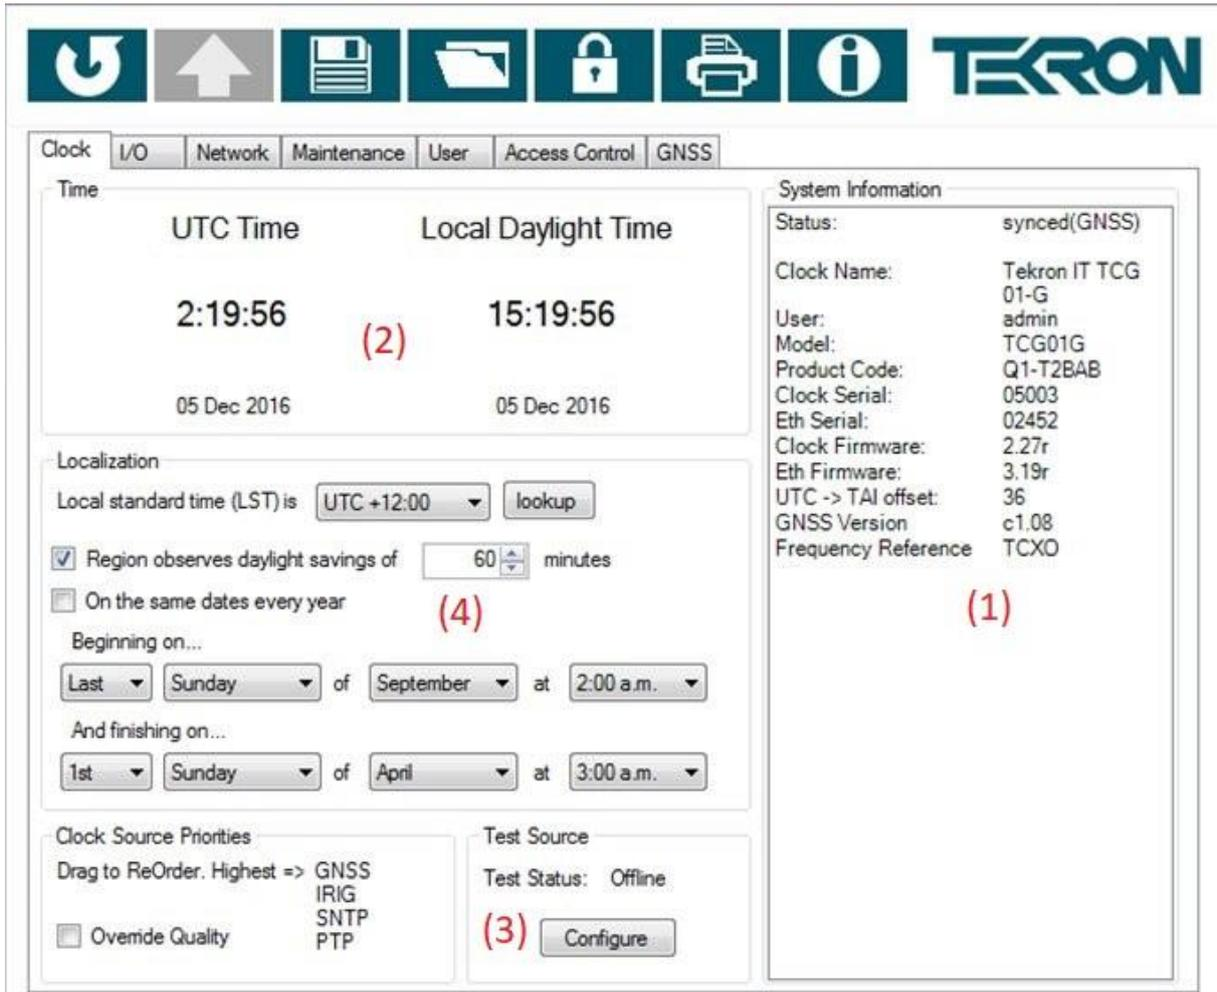

Figure 24 – Configuration tool clock tab
When you first click the “Configure” button on your selected clock, you will be taken to the Clock tab of the configuration tool. This first screen gives you a snapshot of the current clock with details on the clocks status (1), the reported time (2), test mode functions (3) and the localisation settings (4) as shown in Figure 24.